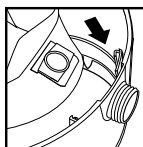

FIGURE 22
32. Slide the inlet deflector with the filter bag attached into the deflector guide. **FIGURE 22.**